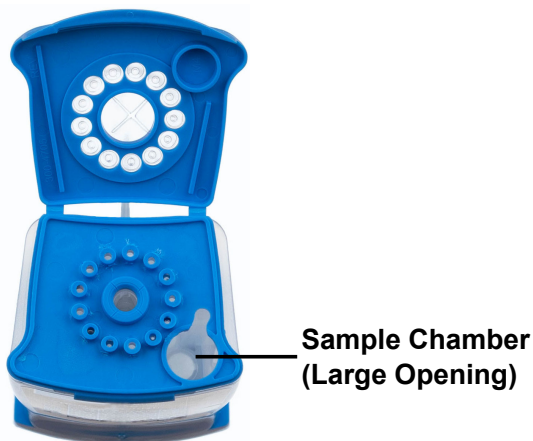

Figure 28. Xpert Xpress CoV-2 plus Cartridge (Top View)
16. To transfer the external control to the cartridge, squeeze the top bulb of the pipette completely again until it is fully flat to empty the contents of the pipette into the large opening (Sample Chamber) of the cartridge shown in Figure 28. Dispose of the used pipette.